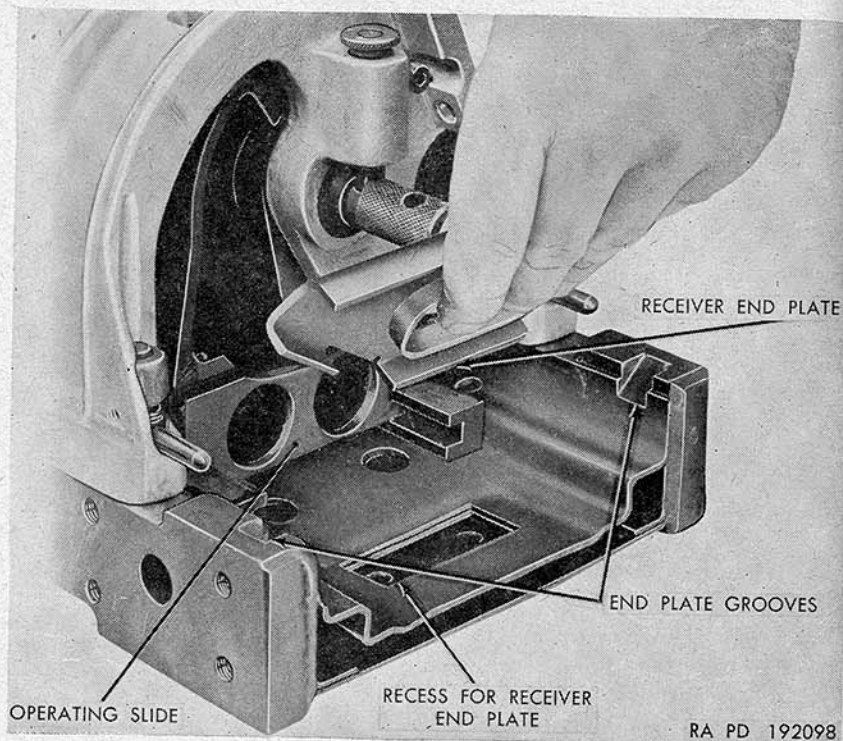

Figure 58. Removal of receiver end plate from gun.
c. Maintain pressure and rotate tool and guide until tabs on guide clear the opening in the receiver end plate (fig. 58).
- Push forward on lower end of receiver end plate to disengage plate from recess in base of receiver (fig. 58).
- Install the receiver end plate (fig. 58) by holding the lower portion angled toward the muzzle end of gun. Lower end plate so that